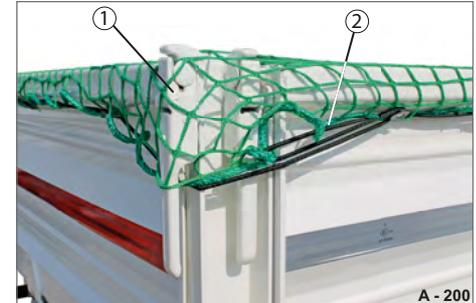

Fig. 212 Covering net at corner posts
- ▶ Thread the expander cord (Fig. 212/2) around the corner posts (Fig. 212/1) at the locks.